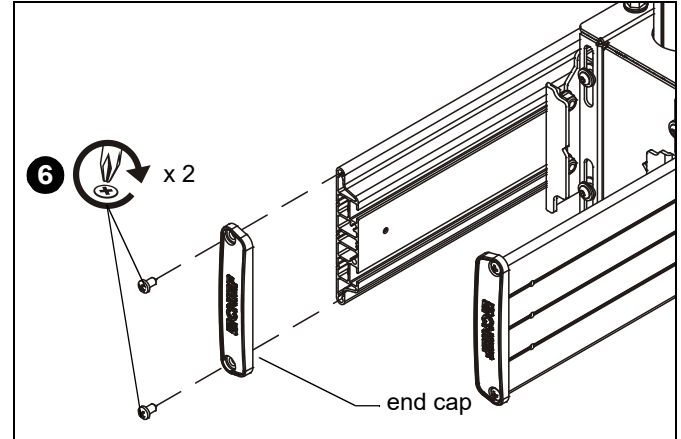

Figure 11
6. Add one end cap to each end of mounting rail, and fasten in place using two 1/4-20 x 1/2" Phillips self-tapping screws for each end cap. (See Figure 11)